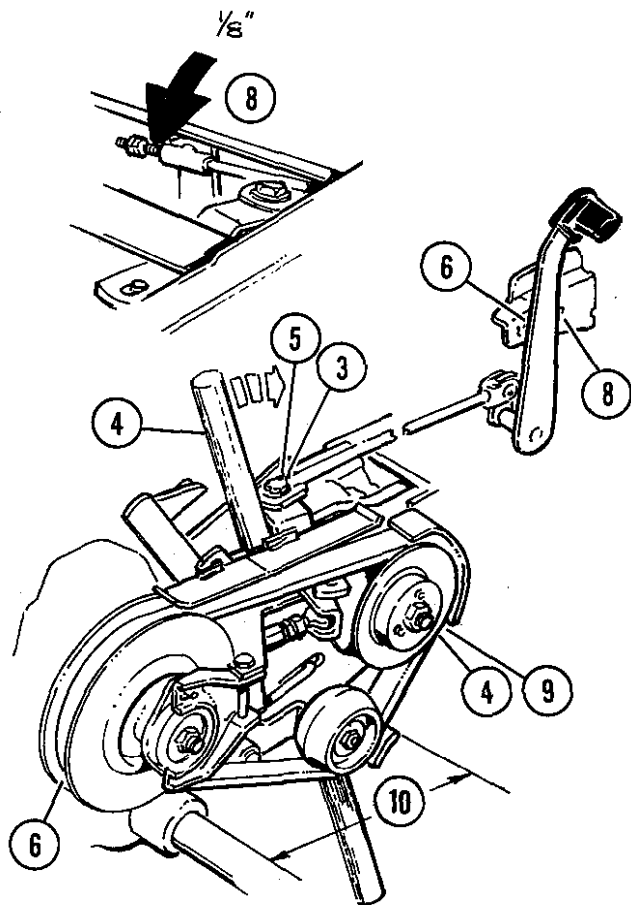

FIGURE 23
Variable Speed Drive: ALWAYS HAVE THE ENGINE RUNNING AND THE CLUTCH ENGAGED (RELEASED) WHEN ATTEMPTING TO MOVE THE VARIABLE SPEED CONTROL LEVER. Adjust the variable speed drive as follows. The reference numbers correspond to the numbers on figure 23:
1. With the engine running and the **transmission** in neutral place the variable control in the fast (7) position.
4. Rotate the engine with the starter and **move** the variable arm until the belt **runs** flush with the top of the small pulleys. This may be **most** easily done by using a bar about 2 to 3 feet long and about $\frac{3}{4}$ inch in diameter to **move** the flat variable **arm**. See figure 23.
6. While rotating the engine with the **starter**, **move** the control lever to the slow (1) position. Loosen the lock nut at the turnbuckle and alternately adjust the turnbuckle and rotate the engine. Adjust the turnbuckle so the belt will ride $\frac{1}{8}$ " below the top of the large pulley when the engine is rotated.
8. Place the variable speed lever in the high (7) position and adjust the **two** locknuts so there is $1/8$ " clearance between the **nuts** and the rod guide. To loosen the two nuts, hold the forward one while turning the rear one counterclockwise. Tighten the nuts securely against each other after completing the adjustment. See figure 23.
9. With the variable control in the high (7) position adjust the belt guard to obtain a $3/16$ " clearance between the belt and the guard. See figure 23.
10. Loosen the nut at inside of the clutch idler and adjust belt stop so the distance between its front edge and the forward side of the **axle** is $8-7/8$ " See figure 23. Retighten the nut and check the adjustments.